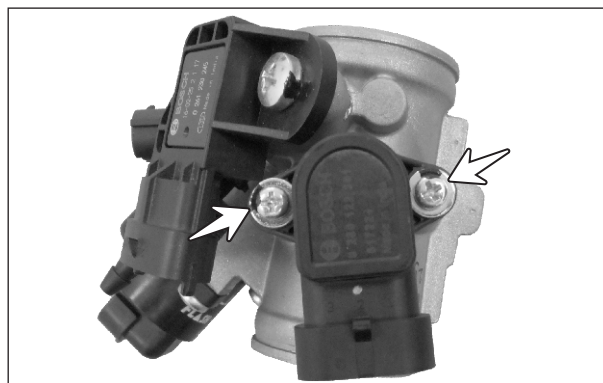

Fig. 4.11
- Remove the screw throttle body (M5x12 - 2nos.) from the throttle position sensor and gently pull out the throttle position sensor along with a 'O' ring. (Fig. 4.11)